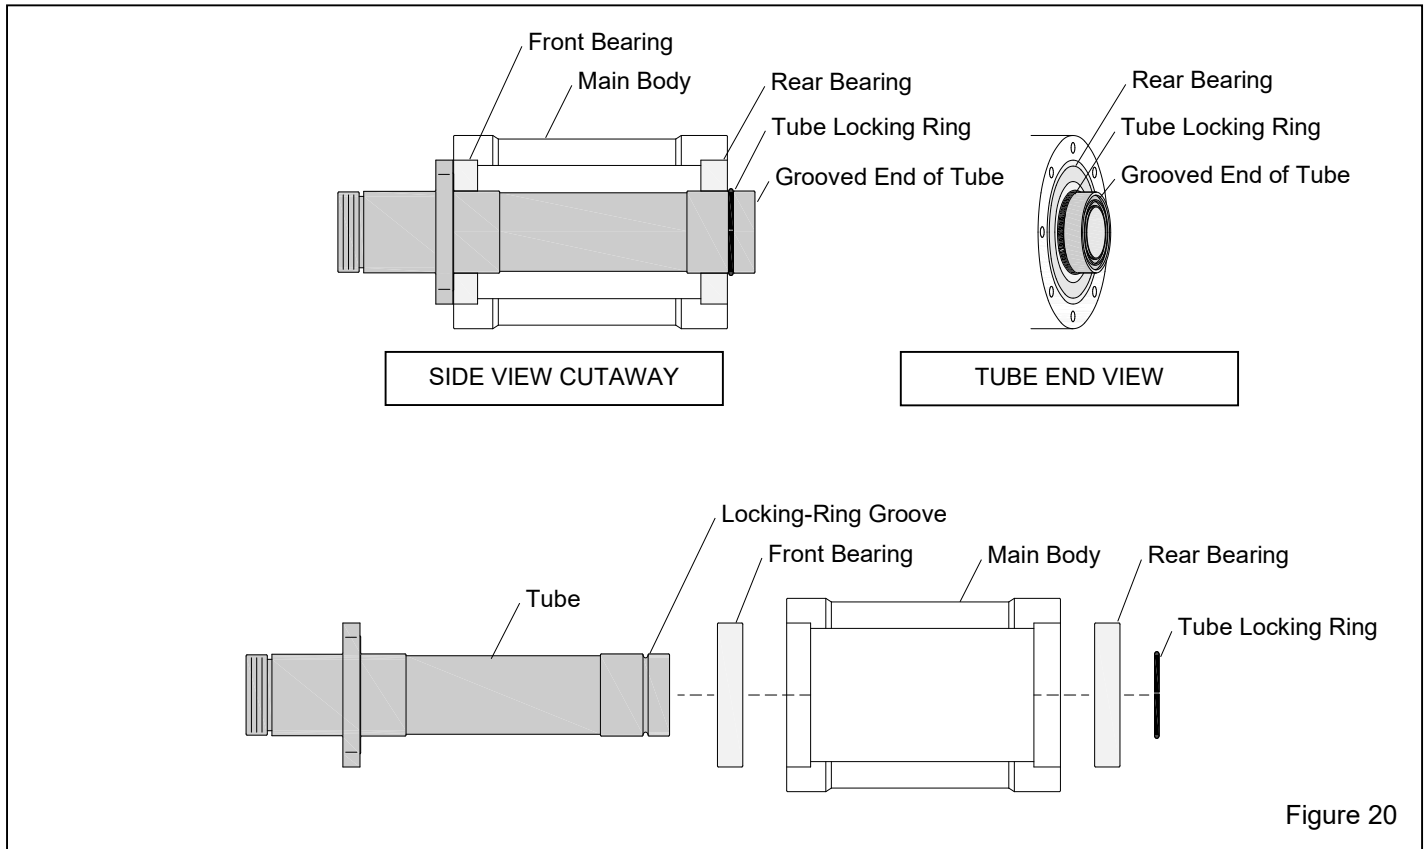

Figure 20
**9.4 Disassemble the Tube and Bearings – Figure 20**
**9.5 Reassemble the Tube and Bearings – Figure 20**